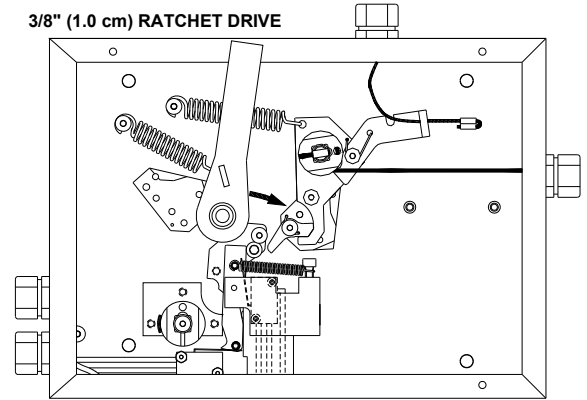
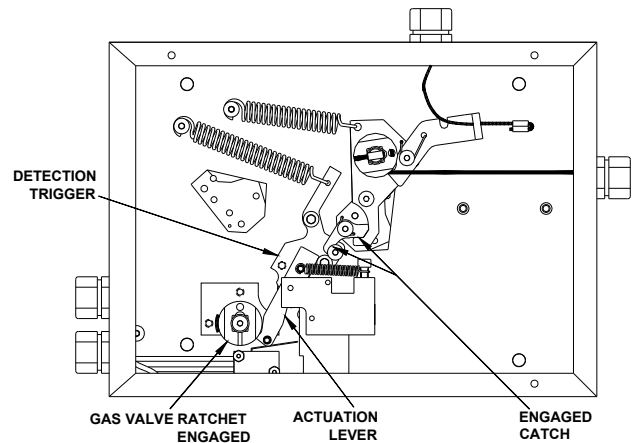

Figure 4-48.
Figure 4-49.
2. Using a ratchet with a 3/16" (0.5 cm) hex-bit socket (Allen type), rotate the Detection Trigger to the right until the Catch snaps into place, locking the Trigger in the SET position. See **Figure 4-48 & Figure 4-49**.